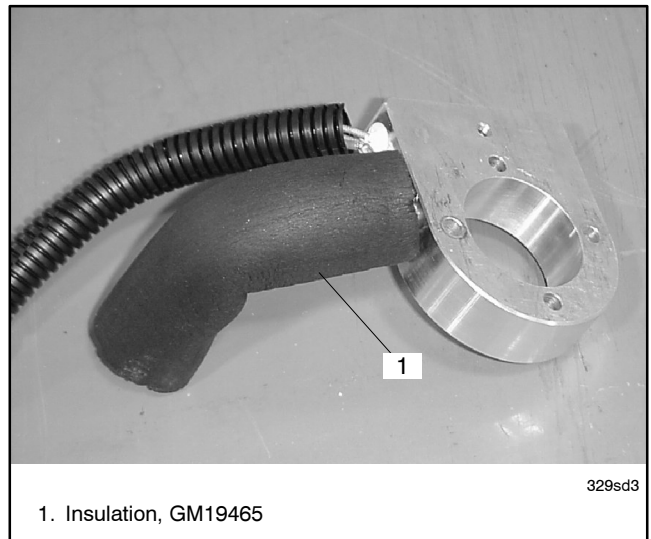

Figure 6 Breather Tube Insulation
- 4.3 Install the insulation, GM19465, over the breather tube. See Figure 6.